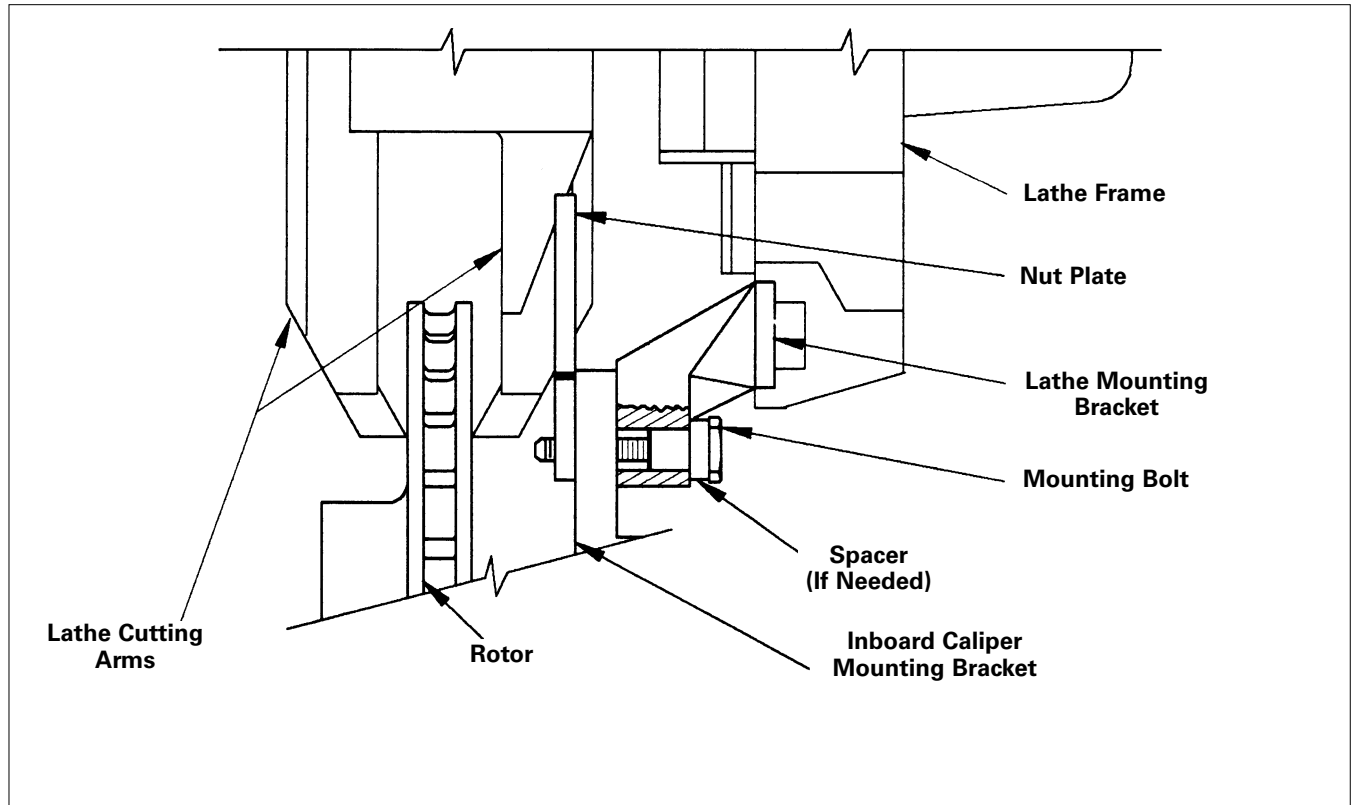

Figure 11
**Note:** Use Figure 11 to assist during installation of the brake lathe when using the mounting bolts supplied with the mounting hardware.